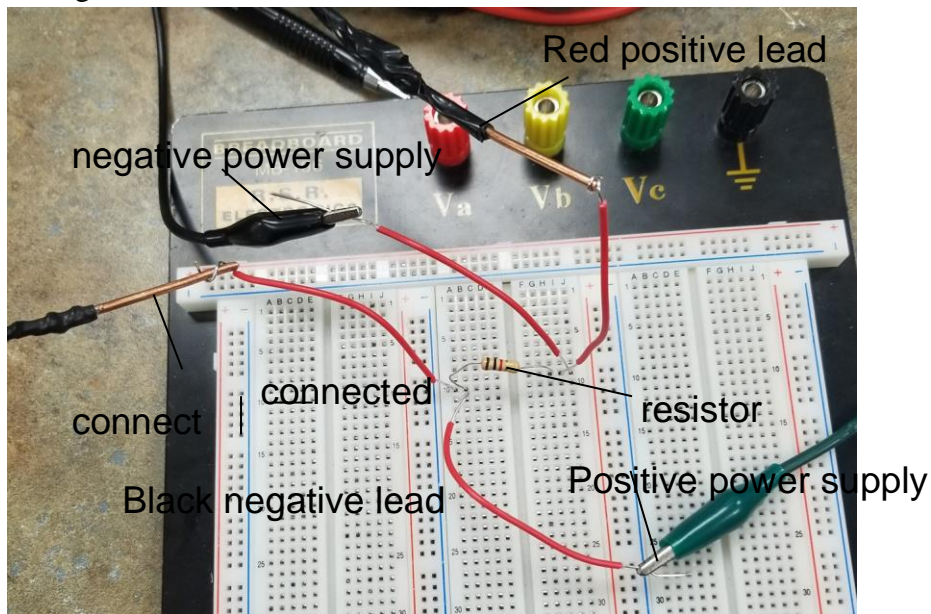

Figure 5-6
5. After the range has been selected, connect the black negative test lead to the side of a component where current is flowing out from then put the red positive test lead to the opposite side so that the multimeter is parallel to the component or circuit being measured as shown in figure 5-6. Note: If the polarity has been switched, the reading will be negative.